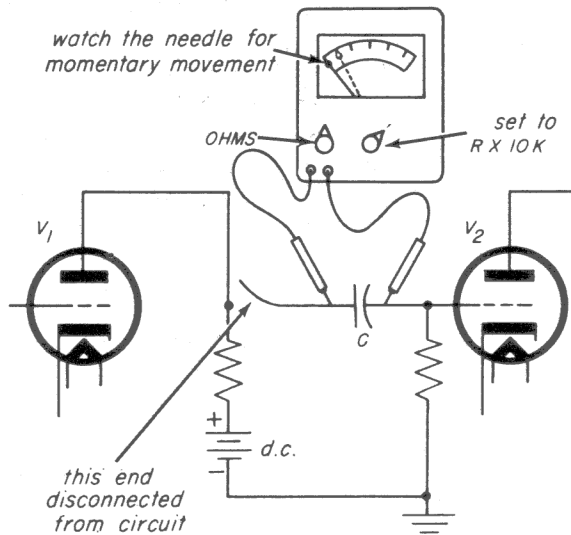

Fig. 15-7
2. Disconnect one of the capacitor leads, as shown in Fig. 15-7. Discharge the capacitor by shorting the leads together. Connect the unsoldered lead to one of the ohmmeter probes.